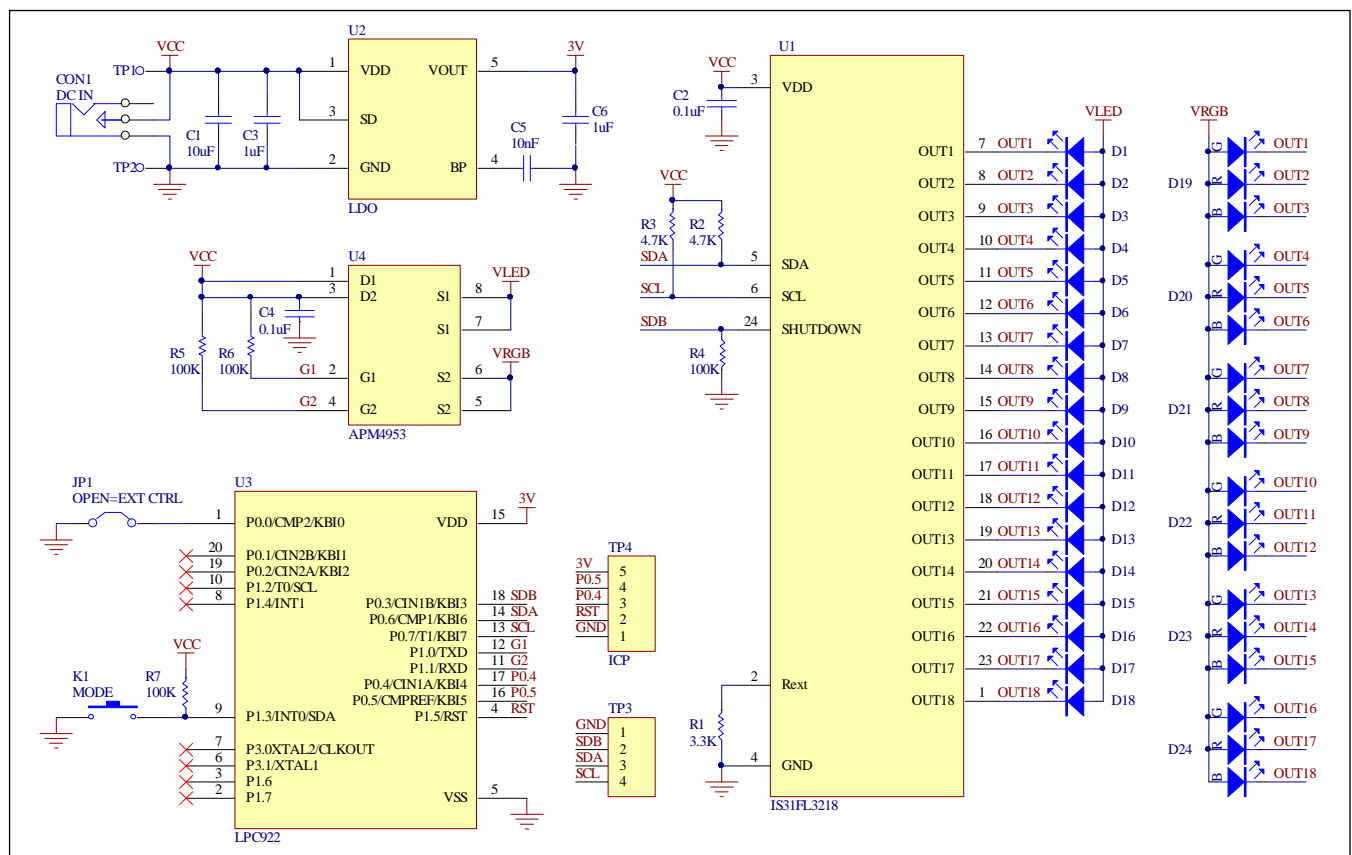

Figure 2: IS31FL3218 Application Schematic
*Table 2: Bill of Materials, refer to Figure 2 above.*